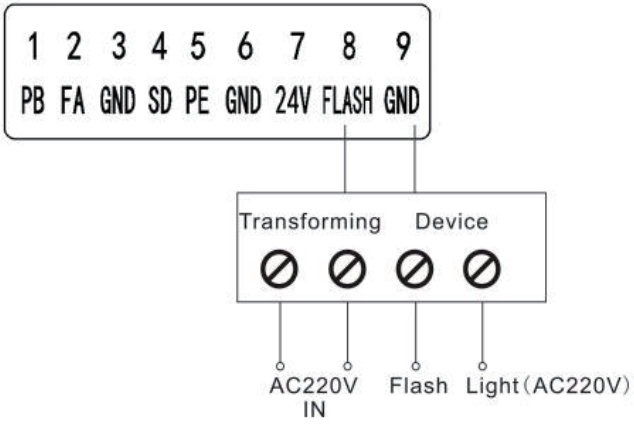
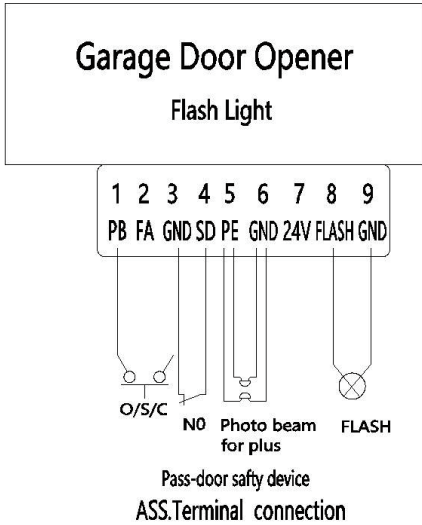

Figure 10
Figure 11
1. The O/S/C interfaces available. (Fig. 10, Fig. 11)
2. Flash light function. (Fig. 10, Fig. 11)
3. Pass door (SD) protection (Fig. 10, Fig. 11)